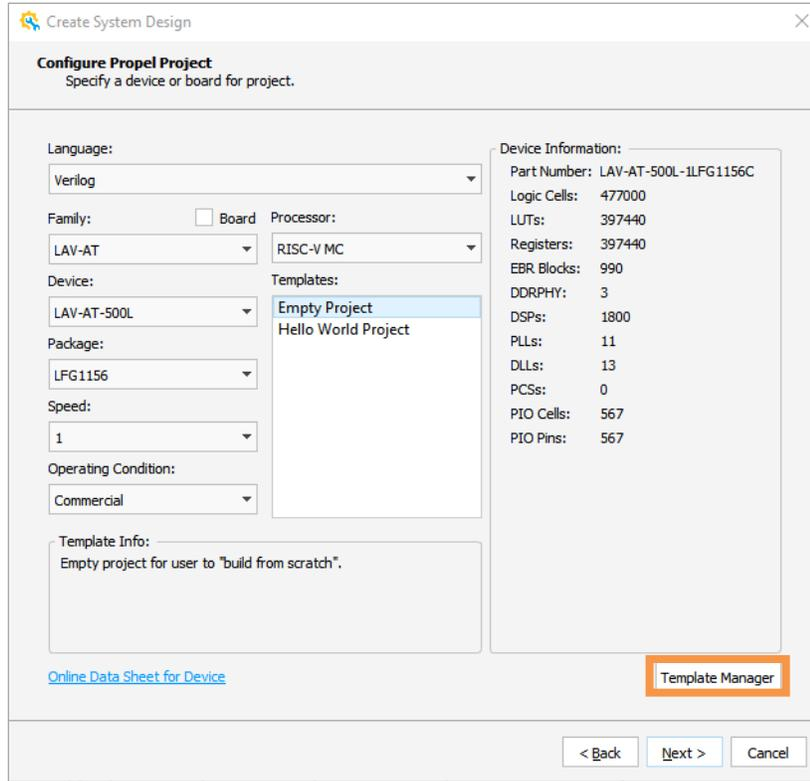
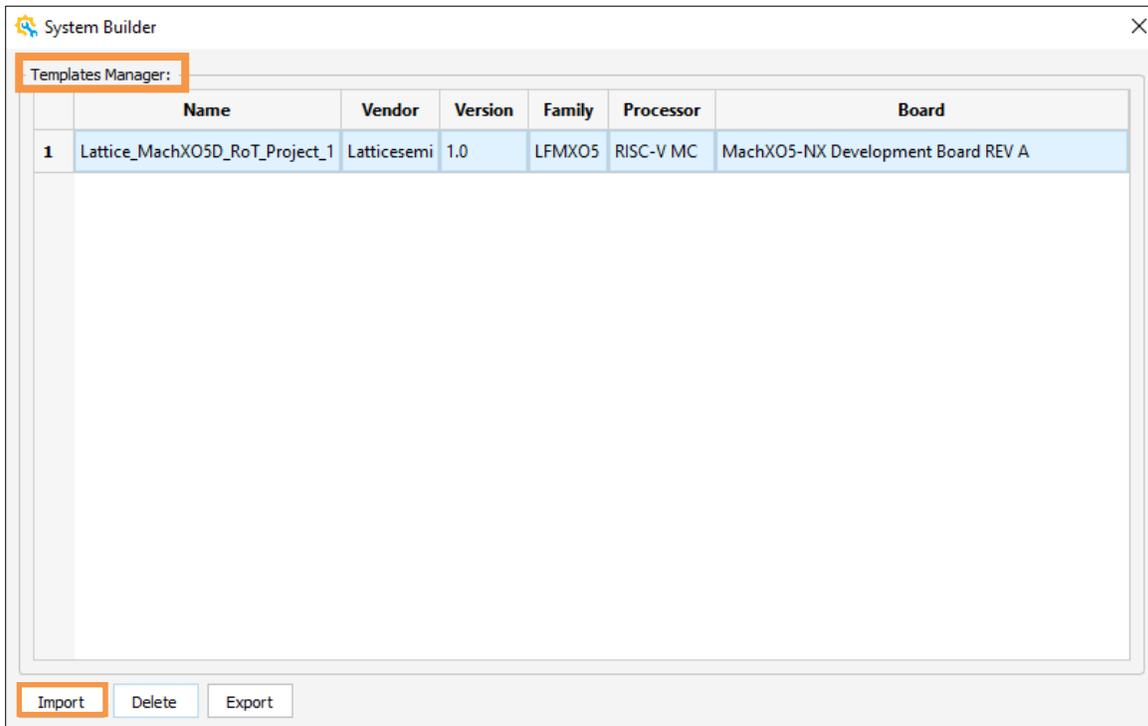
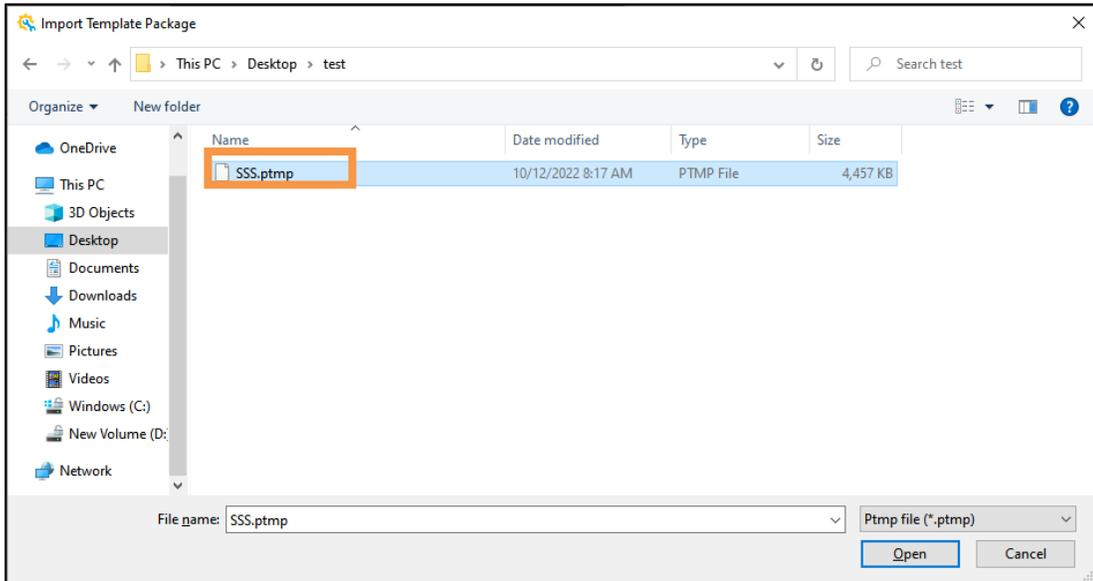

Figure 2.168. Template Manager Entry
Figure 2.169. Templates Manager Page
Figure 2.170. Import a .ptmp File
- You can import/delete/export a selected template in **Template Manager** when creating a new system design (Figure 2.168 and Figure 2.169).
1. Click **Import** (Figure 2.169), and then choose the desired .ptmp file (Figure 2.170).